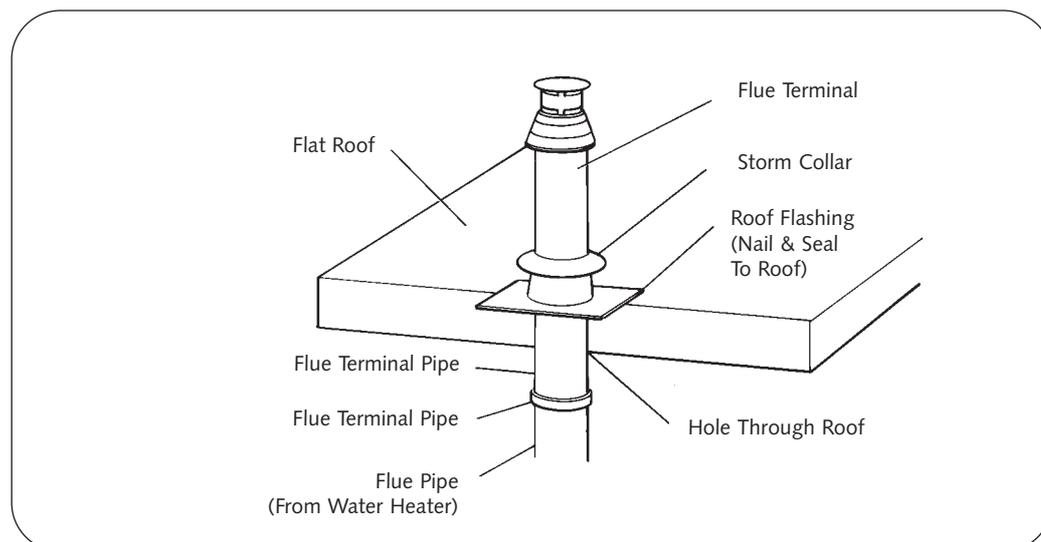

Fig 7.
- Cut a minimum 165mm (6.5in) diameter hole for the smaller flue size or a 216mm (8.5in) minimum diameter hole for the larger flue size centred in the desired location for the roof terminal. See Fig. 7.